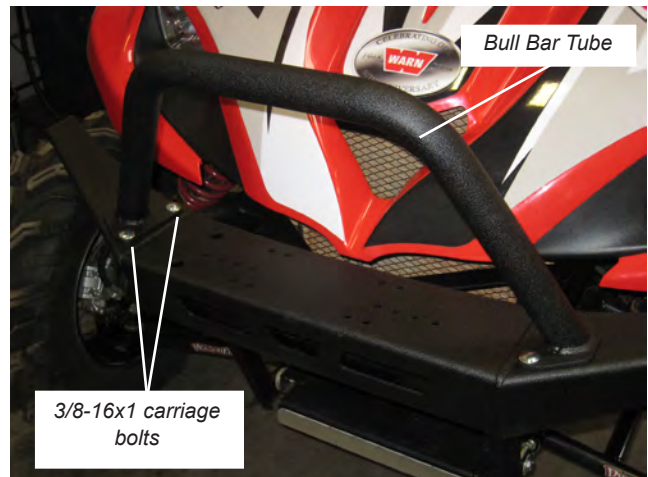

Figure 6
- Position bull bar tube (A2) on top of bumper, as shown in Figure 6. Center and secure with four 3/8-16x1 carriage bolts (D1) on top side and 3/8" flat washers (D2) and nylon lock nuts (D3) on bottom side. Use 9/16" wrench to tighten in place. Torque all four mounting bolts to 30 lb. ft. (40.7 N-m).
- Attach grille plate to front of bumper, as shown in Figure 6, using 5/16-18x3/4 button head cap-screws (C1) on front side and 5/16" lock washers (C2) and nuts (C3) on back side. Use 3/16" allen head wrench and 1/2" socket to tighten in place. Torque all four mounting bolts to 17 lb. ft. (12.5 N-m).